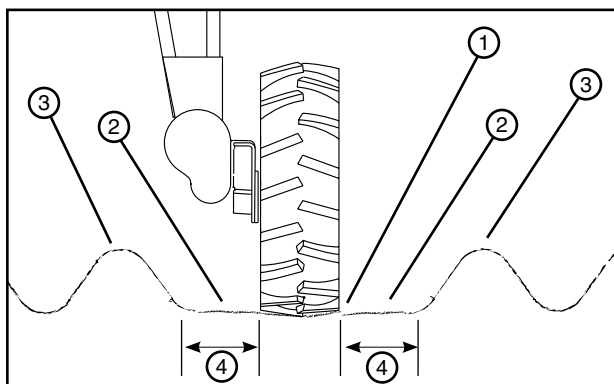

Figure 38-2 1. Wheel Track 3. First Crop Row
3. Remove or flatten the rows at the wheel tracks with a minimum of 10 in (254 mm) of clearance space on each side of the wheel track. See Figure 38-2.